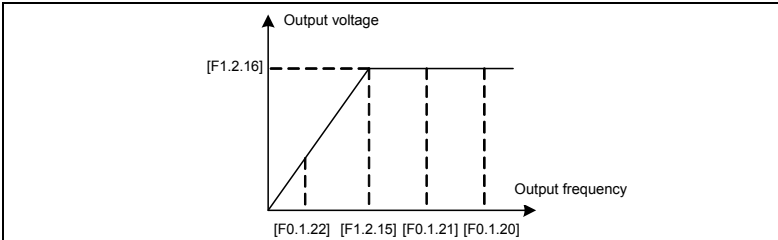

Figure 7-7 Frequency Parameter Definition Sketch
5. The maximum output frequency, upper limiting frequency and lower limiting frequency shall carefully set according to the actual nameplate parameters and operating status of the controlled motor and. The relationship among the three is shown in Figure 7-7.
[F1.2.15] in figure 7-7 represents the motor's reference frequency, and [F1.2.16] refers to the motor's reference voltage.